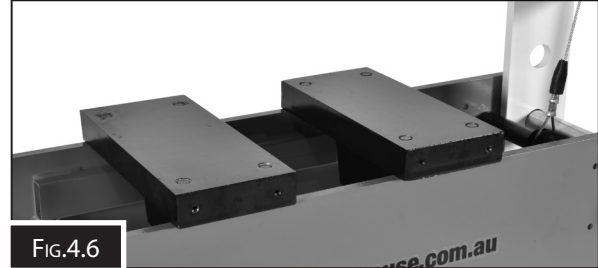

FIG.4.7
3. Set the control valve lever to position 3. (Fig. 4.7)